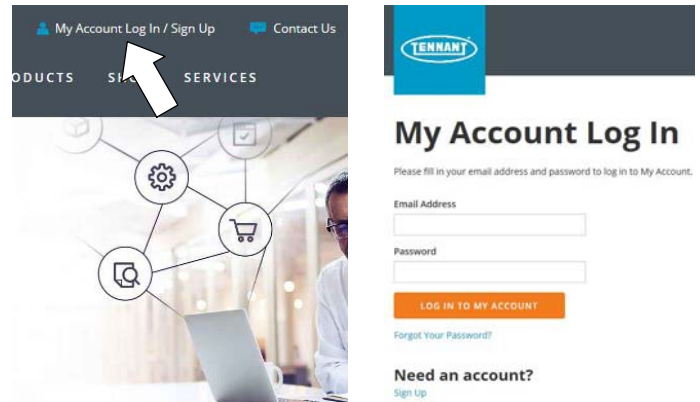

Fig. 9
1. Press “My Account Log In/Sign Up” to open or create an account (Figure 9).